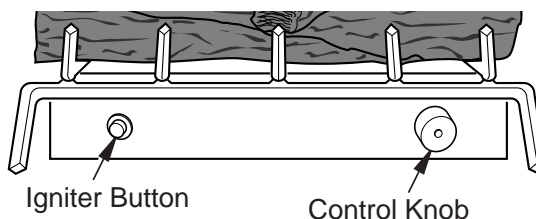

Figure 42 - Control Knob and Igniter Button Location
4. Wait five (5) minutes to clear out any gas. Then smell for gas, including near the floor. If you smell gas, STOP! Follow B in the safety information. If you don't smell gas, go to the next step.
5. Turn control knob counterclockwise  to the PILOT position. Press in control knob for five (5) seconds (see **Figure 42**).